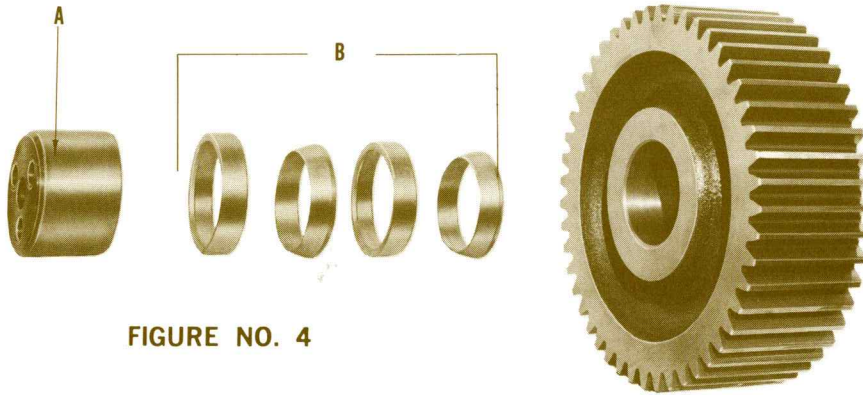

FIGURE NO. 4
Impellers are held in time by the timing gears, which are secured in position on the impeller shafts by grip rings inside the gear hubs. To reset impeller clearances (timing) it is necessary to release the grip rings in one of the gears. (See Fig. No. 4 on next page.)
See Fig. No. 4. Remove the cap screws and gear locking clamps (A) from both shafts. Inside the hub of each gear are two pairs of telescoping grip rings (B) which secure the gear to the shaft. These grip rings must be released to remove the gear.
all components — the grip rings, shafts and gear bores: coat the grip rings with a light oil then slide the grip rings all the way into the gear bores. Be sure the rings are paired and faced identically as originally installed, as shown in Fig. No. 4. (Note: do not reuse grip rings which have been disassembled, since they lose concentricity and locking characteristics.)